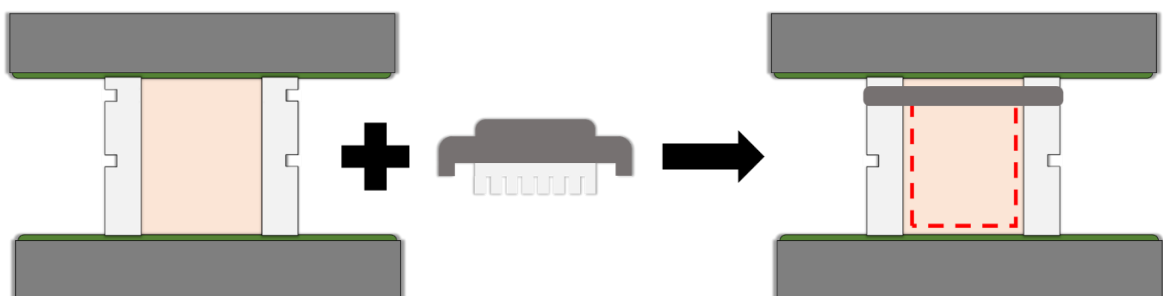

Figure 5: Illustration of setting an agarose gel with the well positioned at the "top."
**Step 6:** Pour the solution into the gel mould and add a well comb that is large enough for approximately 20µL of sample per well. Ensure the well comb is positioned near the top or bottom of the well, as shown in Figure 5.